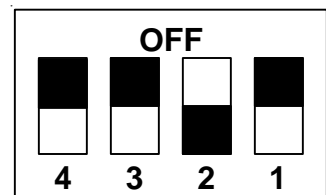

**Figure 5**
16. Move Dip switch No. 1 to OFF (see Fig. 5).